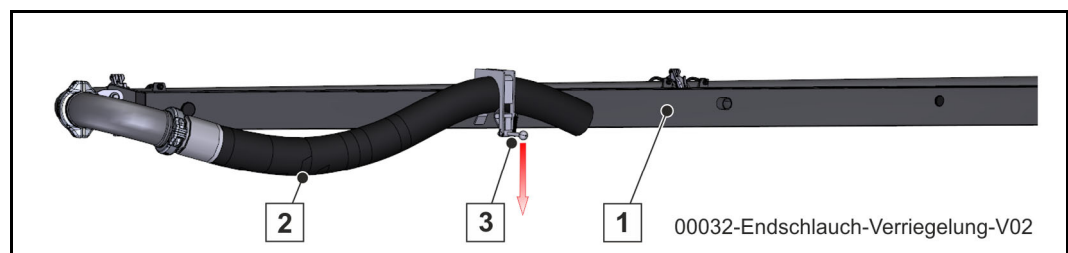

Fig. 190 End hose lock
- Hold the last placing boom section (1) close to the ground in a horizontal position and release the end hose (2) with the lever (3) (**Fig. 190**). There may be several end hose locks, depending on the equipment.